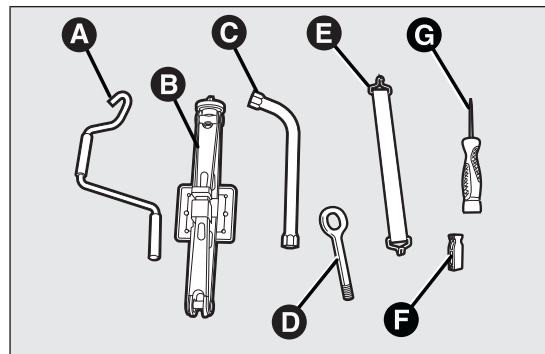
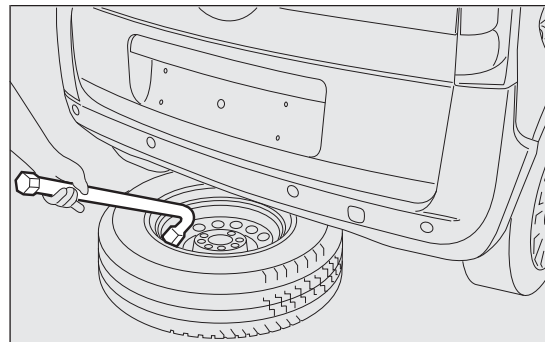
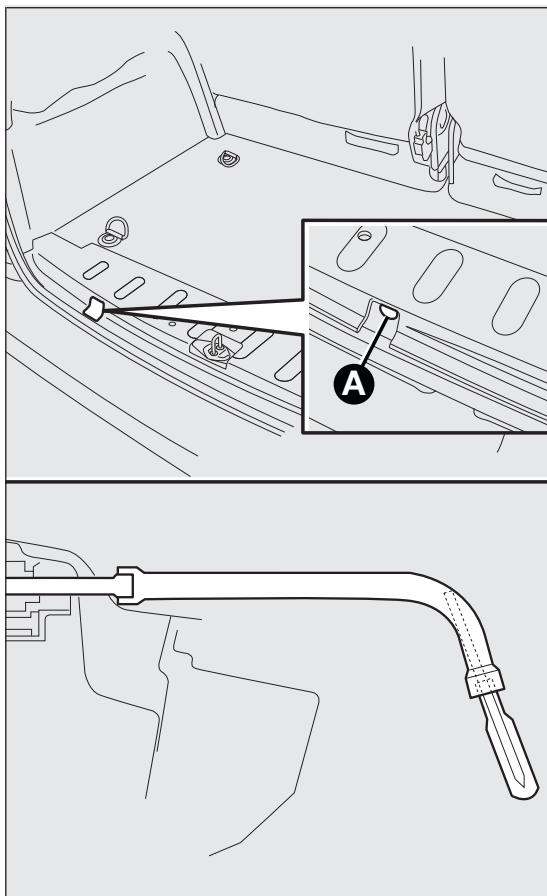

fig. 116
fig. 118
fig. 117
- ☐ the bag contains the following tools fig. 116:
- ☐ Take the wrench **C** fig. 116 and from inside the boot loose the spare wheel fastening bolt **A** fig. 117 to let it down. To reduce the effort, insert screwdriver **G** fig. 116 in the seat in the wrench **C**;
- ☐ use the wrench **C** fig. 116 to remove the wheel from the vehicle fig. 118;
- ❑ lift the wheel by fastening the bolt A fig. 117;